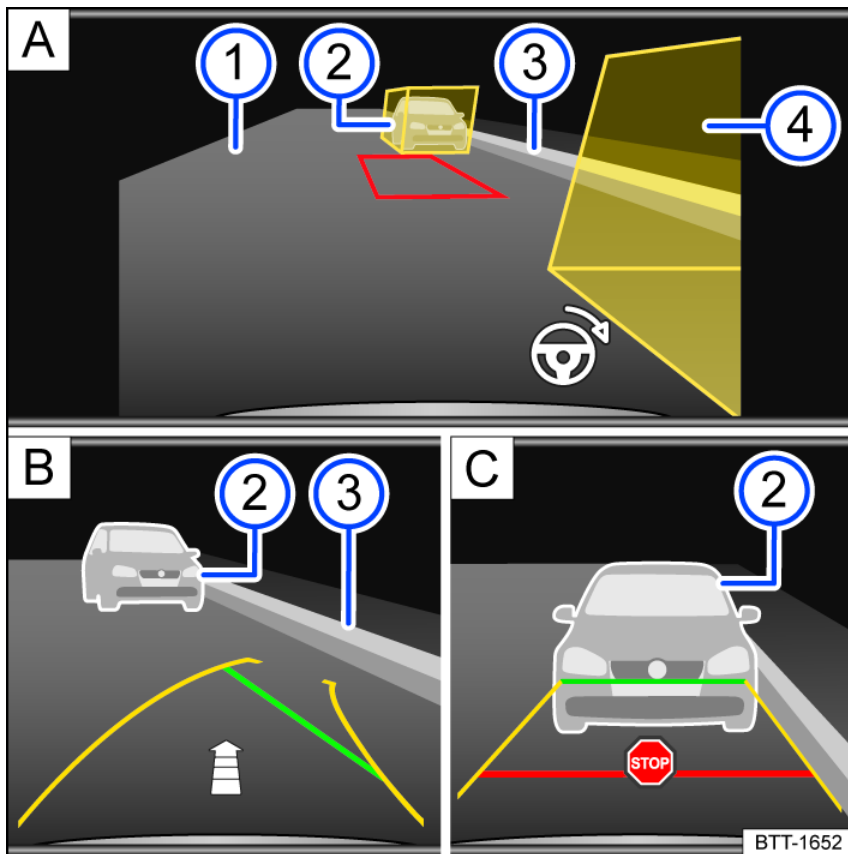

Fig. 139 Screen display in the Infotainment system: Rear View Camera system.
Key for *fig. 139*:
- Position the vehicle parallel to the parking row approximately 3.3 ft (1 meter) away. The yellow assisting boxes must cover the obstacles *fig. 139***A** **2** or **4**. The area in between must be free of obstacles.
- Select the reverse gear. A red frame represents the target position of your vehicle *fig. 139***A**.
- Turn the steering wheel until the red frame moves between the assisting boxes and becomes green *fig. 139***A**. Hold the steering wheel in this position while driving in reverse.
- Drive slowly in reverse until the stop symbol appears or the green line aligns with the side boundary of the parking space *fig. 139***C**. An *fig. 139***B** arrow indicates the remaining distance to be driven based on the number of displayed segments.